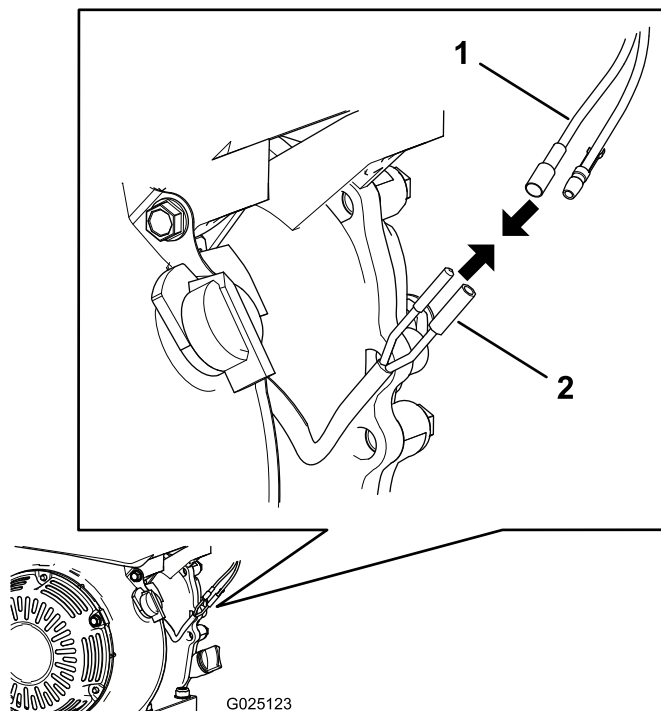

Figure 5
8. Connect the wireless-hour-meter wiring harness to the lighting-coil wires (Figure 5).